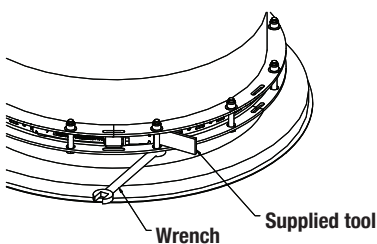

Figure 55 - Adjustable length, INSTALLATION STEP D
- d. Tighten all the bolts of the containing ring. For each bolt, use the supplied tool as a guide between the two containing rings (see **Figure 55**).